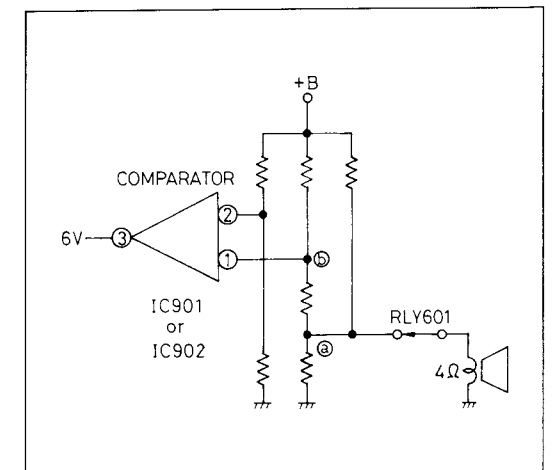

Fig. 2
1. If speakers with an impedance of  $6\Omega$  or less are to be connected to the left and right "MAIN" or "REMOTE" speaker terminals (Fig. 2).